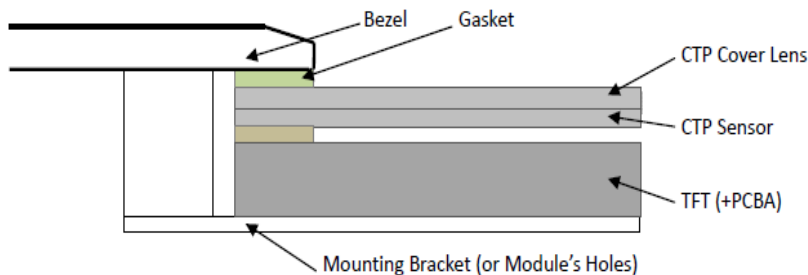

Figure 1
10.1 Bezel Mounting (Figure 1)
10.1 面框安装 (附图 1)